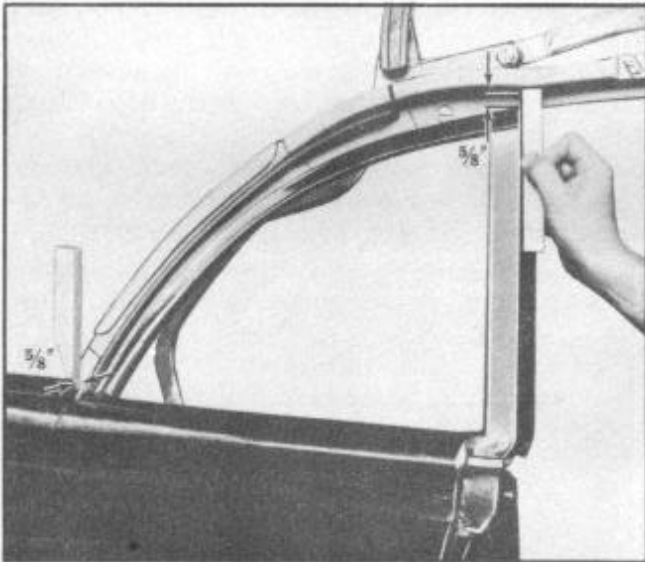

FIGURE 140
5. Loosen the hex head bolts attaching top pivot bracket support to rear pillar to wheelhouse brace at (C) and (D). Bolt holes at (C) are slotted. Bolt (D) is a pivot bolt for movement of bracket (E) forward or backward in an arc to lengthen or shorten the top assembly in relation to the windshield header. Make necessary lateral adjustment and tighten bolts (C) and (D) securely.
6. Loosen bolts (F) and move bracket (G) up or down, in or out, until 5/8" clearance is obtained between the top front corner of the rear quarter window and the top side rails, and 5/8" between the lower rear corner of the rear quarter window and the side rails at the belt line, Figure 140. Use a 5/8" wood gauge as shown. This 5/8" measurement is important in producing correct operation of the top.